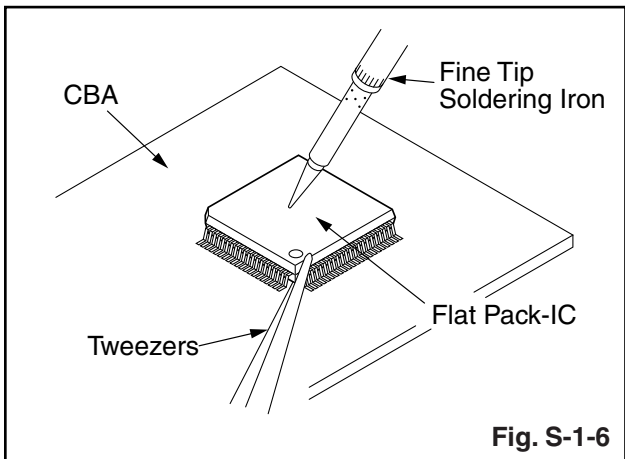

Fig. S-1-6
3. Bottom of the flat pack-IC is fixed with glue to the CBA; when removing entire flat pack-IC, first apply soldering iron to center of the flat pack-IC and heat up. Then remove (glue will be melted). (Fig. S-1-6)
4. Release the flat pack-IC from the CBA using tweezers. (Fig. S-1-6)
- Bottom of the flat pack-IC is fixed with glue to the CBA; when removing entire flat pack-IC, first apply soldering iron to center of the flat pack-IC and heat up. Then remove (glue will be melted). (Fig. S-1-6)
- Release the flat pack-IC from the CBA using tweezers. (Fig. S-1-6)
4. Bottom of the flat pack-IC is fixed with glue to the CBA; when removing entire flat pack-IC, first apply soldering iron to center of the flat pack-IC and heat up. Then remove (glue will be melted). (Fig. S-1-6)
5. Release the flat pack-IC from the CBA using tweezers. (Fig. S-1-6)